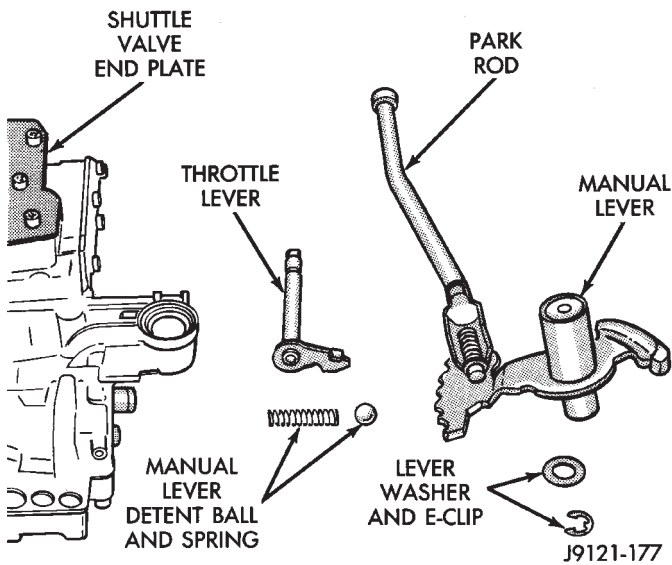

Fig. 109 Removing Manual And Throttle Levers
(4) Remove manual shaft E-clip and washer (Fig. 109).
(5) Pull manual shaft and park rod assembly upward out of valve body and off throttle lever (Fig. 109).
(6) Remove Retainer Tool 6583. Then remove and retain detent ball and spring.
(7) Remove throttle lever (Fig. 109).